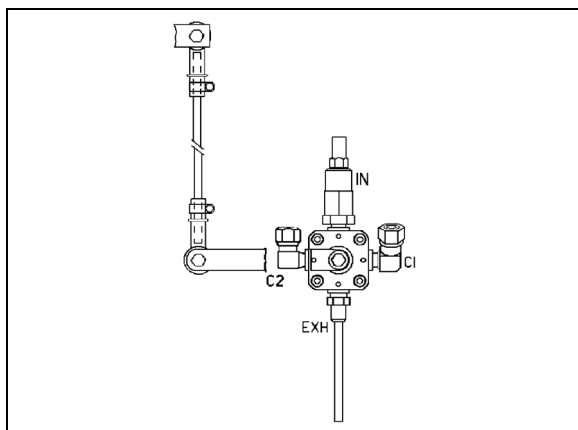

FIGURE 39: FRONT HEIGHT CONTROL VALVE 16100
- Loosen the clamp on the height control valve rubber coupling and bring it up or down (Fig. 39).